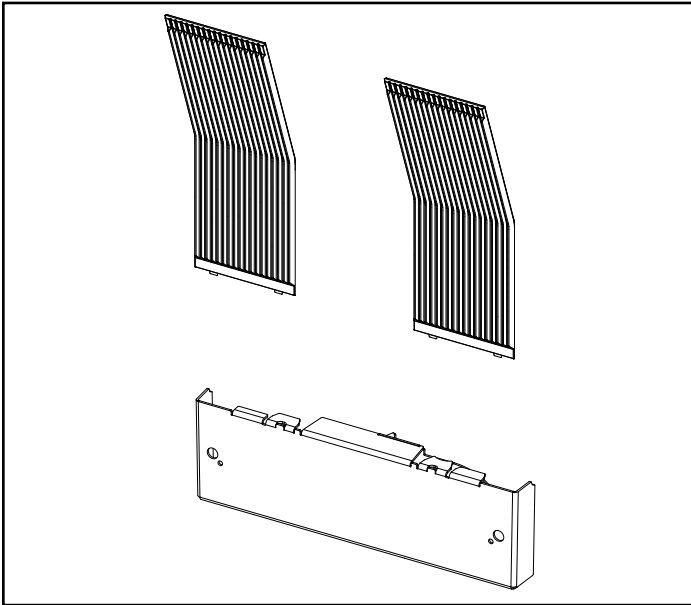
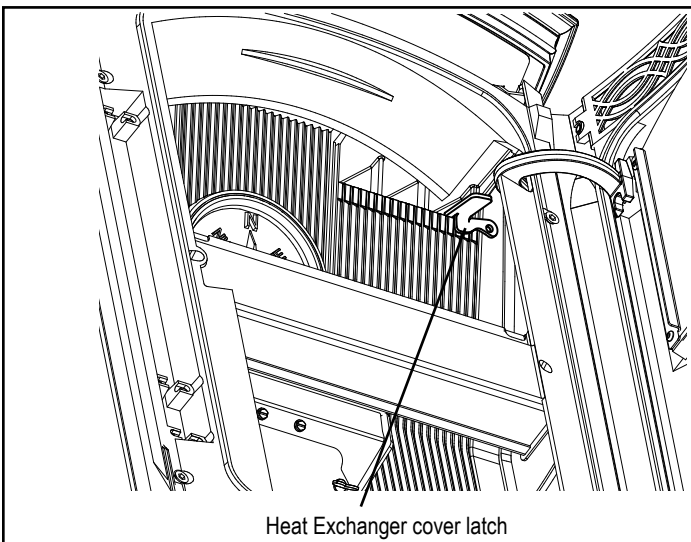
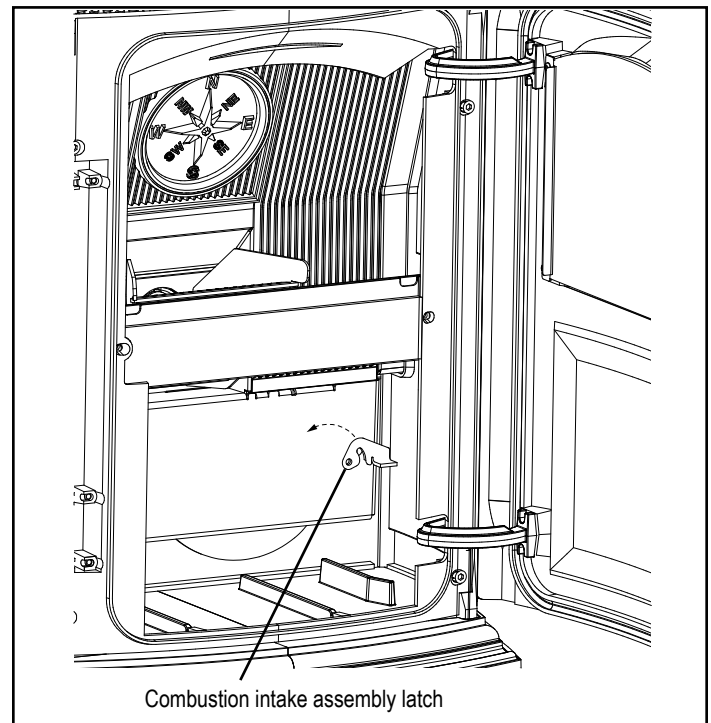

Figure 5.4
Figure 5.5
Figure 5.6
- Remove the two heat exchanger covers. Figure 5.4 These covers are made of cast iron and are held into place with a swing latch in the upper right and left corners. Figure 5.5. Swing the latch upward far enough to release the top edge of the heat exchanger cover. Tilt the cover forward approximately 2" and lift it upward about 1" to release the bottom edge. The cover can now be taken completely out through the upper door opening. Repeat the process with the second heat exchanger cover.
- Remove the combustion intake assembly, Figure 5.4. The combustion intake assembly is held into place with two swing latches Figure 5.6. Swing each latch until it hangs down away from the retainer stud. Now the assembly can be taken out by tilting the right side outward first through the lower door opening.